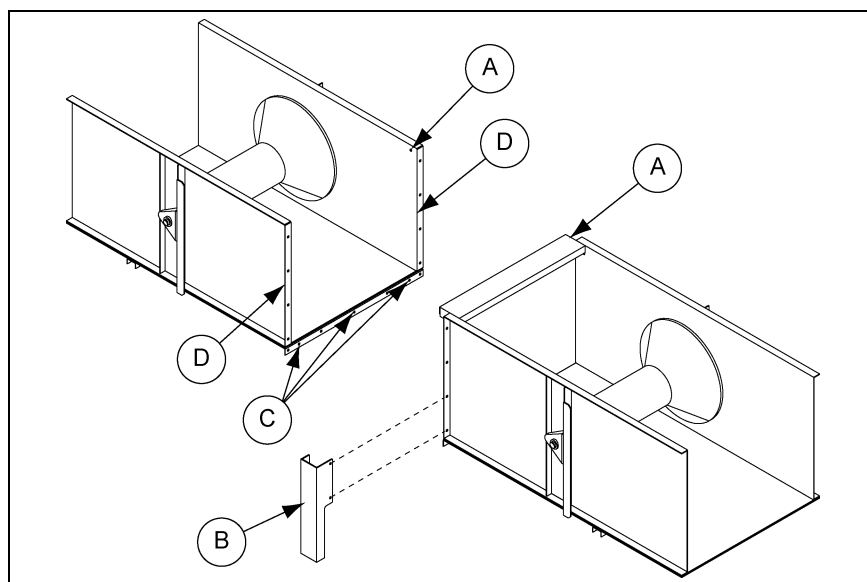

Figure 4B Conveyor Section Assembly
4. Apply silicone to the flanges (D) along the side panels and bottom of the two (2) sections to be joined. Mate the first intermediate section with the loader section. Fasten sections with supplied grade 5-3/8" diameter hex head cap screws and nuts. Sections may be assembled in any order unless otherwise specified on the certified drawing.
5. The bottom flanges of each conveyor section have several 3/8" diameter holes. *(See Figure 4B.)* As each conveyor section is assembled to the preceding section, drive bull-nose alignment pins (C) through the matching pairs of the smaller 3/8" diameter holes. This arrangement ensures that liners of adjoining conveyor sections form a smooth, even surface with no lip or ledge in which the belt might otherwise catch. Use a straightedge to verify that the liner surfaces of adjoining conveyor sections are even. If they are not, find and correct the problem.
6. Attach a pair of the optional support legs (B) and complete fastening the two (2) conveyor sections together as shown in Figure 4B on Page 17. Support legs (B) are optionally furnished in right hand/left hand sets. One set is required at each conveyor section joint to ensure proper alignment and support.
11. Drive out the alignment pins (C). Replace them with 3/8" diameter hex head cap screws and nuts which have been furnished with the conveyor.